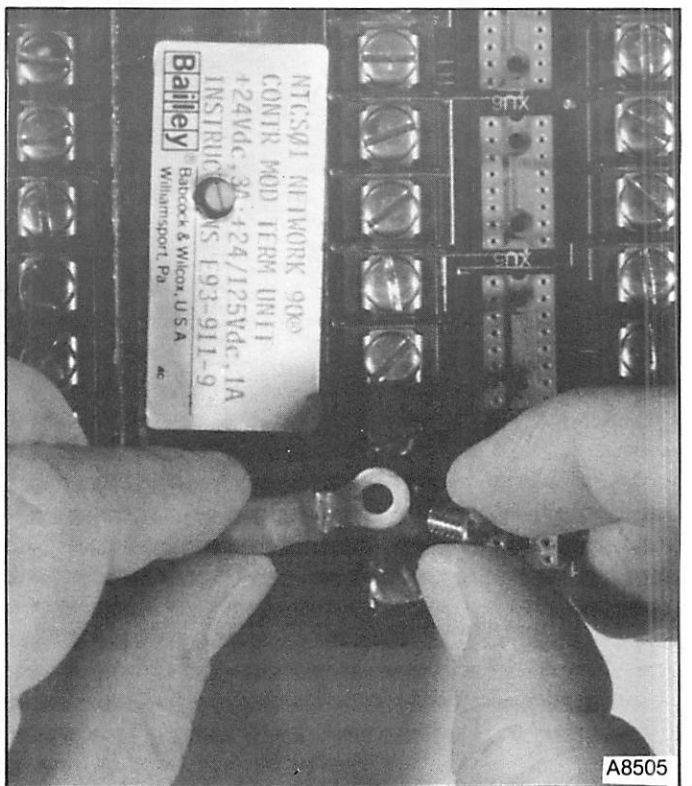

FIGURE 22 — Attaching Process Wire to Terminal Blocks
f. Attach wire(s) from process(s) to terminal block(s) (see Figure 22).